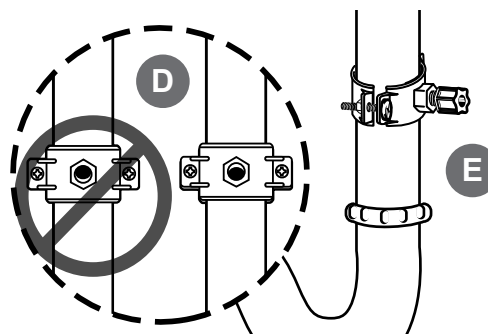

Figure 10
- Make sure the black rubber gasket is adhered to the inside of the drain clamp and place the drain clamp assembly over the drilled hole. Look through the hole and position the clamp so that the center of the clamp hole is slightly higher (about 1/16 inch) than the center of the drilled hole. (See Figure 10). Tighten the clamp securely.